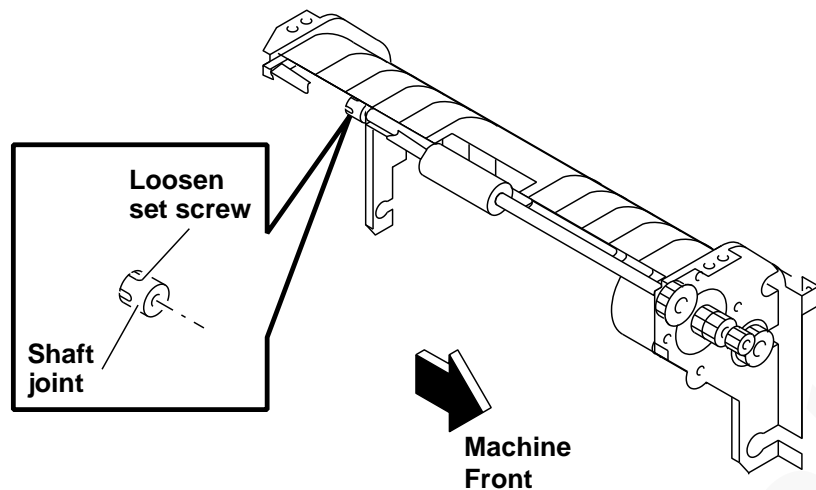

Figure 14. Shaft joint removal
- a. Loosen set screw securing shaft joint (Figure 14).